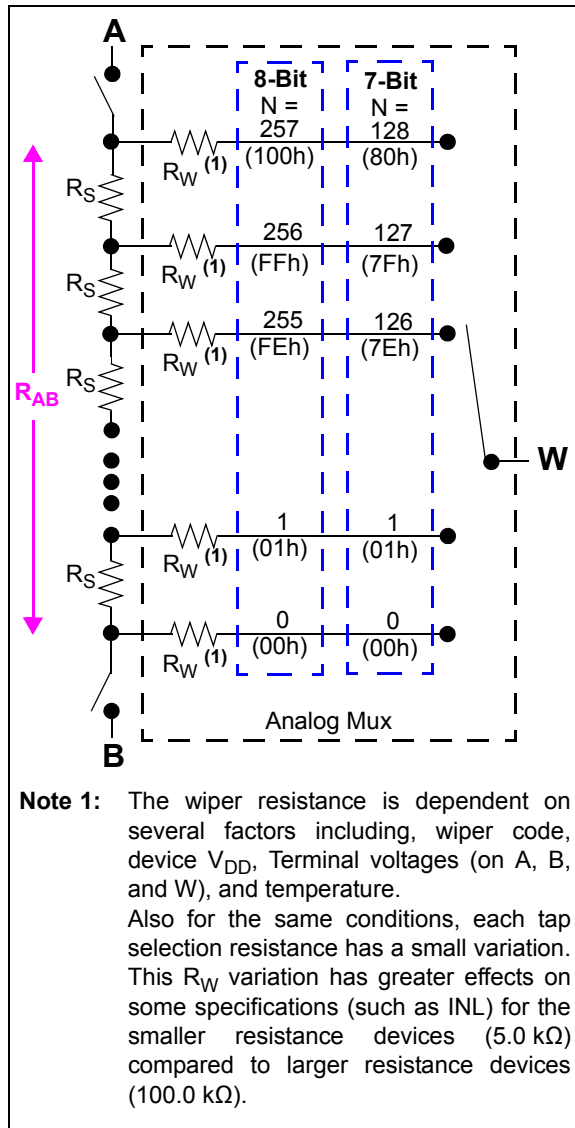

FIGURE 5-1: Resistor Block Diagram.
The Resistor Network has either 7-bit or 8-bit resolution. Each Resistor Network allows zero scale to full-scale connections. Figure 5-1 shows a block diagram for the resistive network of a device.
The resistor ladder is a series of equal value resistors (RS) with a connection point (tap) between the two resistors. The total number of resistors in the series (ladder) determines the RAB resistance (see Figure 5-1). The end points of the resistor ladder are connected to analog switches which are connected to the device Terminal A and Terminal B pins. The RAB (and RS) resistance has small variations over voltage and temperature.